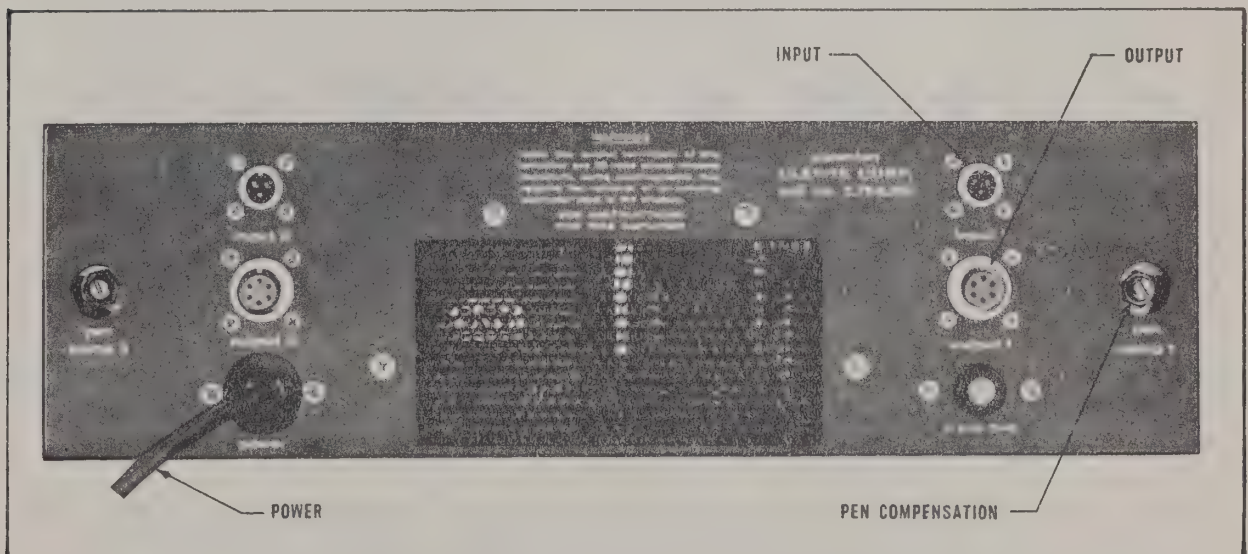
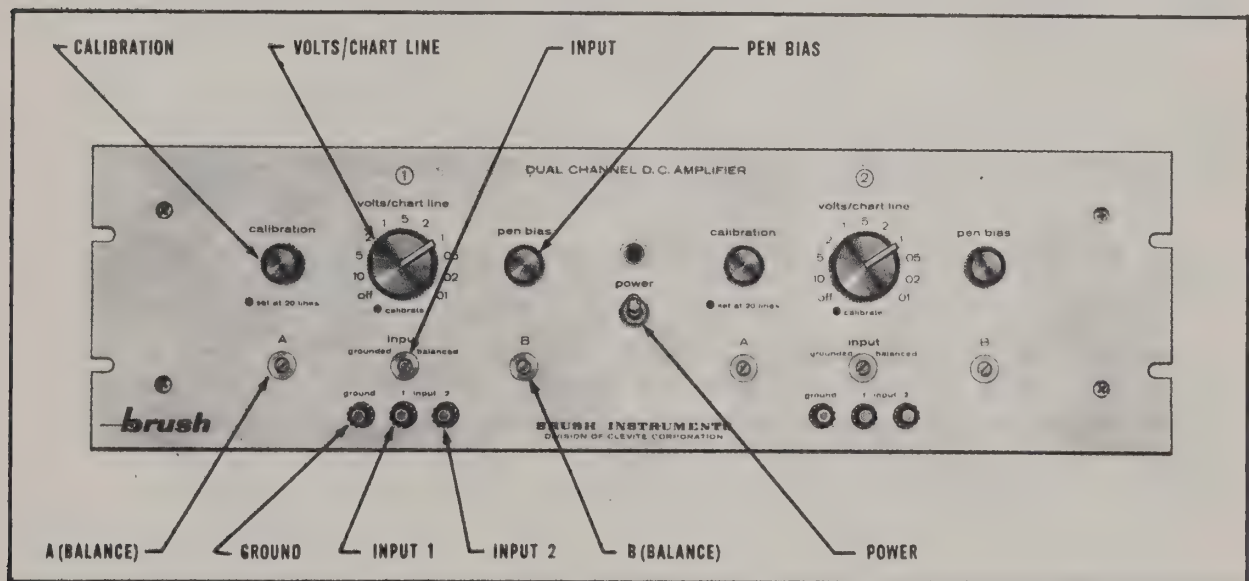

Fig. 1. Rear Panel —Dual Channel D.C. Amplifier.
Fig. 2. Front Panel Controls and Connectors—Dual Channel D.C. Amplifier Model RD 5621 01.
2. Connect the amplifier OUTPUT connector (Fig. 1), on the back of the amplifier, to the oscillograph input connector with the cable supplied.
2. Connect the amplifier power cable (Fig. 1) to a 115 volt power source. (The Model RD 5621 00 will accept only a 60 cps power input, while Models RD 5621 01 and RD 5621 02 will accept a 50 to 2000 cps power input.)
The Dual Channel D.C. Amplifier is balanced at the factory and, if the amplifier is purchased with an oscillograph, the amplifier is frequency compensated to that oscillograph. Balancing procedures described below are necessary only when new tubes are installed in the instrument, or when operation of the CALIBRATION control (Fig. 2) causes pen to shift. Frequency compensation procedures described below are necessary only when the amplifier is used with an oscillograph other than the one with which it was purchased. For routine operation, omit balancing and frequency compensation procedures and continue with "Calibration", below.
1. Turn *both* VOLTS/CHART LINE switches (Fig. 2) to "off". Turn the amplifier POWER switch (Fig. 2) to "on" and allow 15 minutes for the amplifier to warm up.
2. Turn the oscillograph "on" at slow chart paper speed (to conserve chart paper), and set the INPUT switch (Fig. 2) in the "balanced" position.
3. Turn the CALIBRATION control (Fig. 2) full clockwise, and bring the oscillograph pen approximately to chart center by means of the B-(BALANCE) control (Fig. 2).
4. Turn the A (BALANCE) control (Fig. 2) to its extreme counterclockwise position. Rapidly rotate the CALIBRATION control (Fig. 2), counterclockwise, then clockwise, while turning the A (BALANCE) control slowly clockwise until no pen deflection is noted.
5. Center the pen on the chart by means of the B (BALANCE) control (Fig. 2), and turn the oscillograph "off".
To obtain optimum frequency response of a Brush amplifier-oscillograph combination, the frequency response of the amplifier must be adjusted to match the penmotor of the oscillograph. (When an amplifier and an oscillograph are purchased as a matched system, this adjustment is made at the factory. If the instruments are purchased separately and if frequencies over 30 cps are to be recorded, the frequency compensation procedure must be observed.) When the amplifier is used with a Brush oscillograph and flat response to high frequencies is not required, the PEN COMPENSATION control (Fig. 1) may be turned "off" (fully counterclockwise).
1. Connect an oscillator covering the range from 10 to 100 cps to the INPUT 1 terminal (Fig. 2) and the INPUT 2 terminal (Fig. 2) on the front panel of the amplifier. If the corresponding INPUT connector (Fig. 1) on the rear panel is used, connect the oscillator to pin "A" (ground) and pin "C". To reduce hum pickup it is recommended that shielded leads be used.
2. Set the INPUT switch (Fig. 2) in the "grounded" position. When the INPUT switch (Fig. 2) is in the "grounded" position, the INPUT 1 terminal is shorted to ground, allowing connections to be made at the INPUT 1 and INPUT 2 terminals.
3. Turn the oscillograph "on". Set the VOLTS/CHART LINE switch (Fig. 2) in the "10" position and, with the oscillograph operating at a chart paper speed of 20 or 25 mm/sec, center the oscillograph pen trace on the chart paper by means of the PEN BIAS control (Fig. 2).
4. Turn the oscillograph "on". Set the PEN COMPENSATION control (Fig. 1) in approximately mid-position.
5. Adjust oscillator output level at 10 cps for 10 lines total pen deflection (peak-to-peak). If oscillator output is not sufficient to produce 10 lines pen deflection, turn the VOLTS/CHART LINE switch to a more sensitive position to produce 10 lines of deflection. It may be necessary to increase or decrease the oscillator output voltage, or to change the setting of the CALIBRATION control (Fig. 2) to obtain the desired 10 line deflection.
The oscillator output voltage is a reference voltage and must be held constant during the frequency compensation procedure; the settings of the oscillator output voltage control, the VOLTS/CHART LINE switch (Fig. 2), and the CALIBRATION control (Fig. 2) must remain unchanged.
6. At 100 cps (with oscillator output voltage the same as in step 5, above), adjust the PEN COMPENSATION control (Fig. 1) as necessary to obtain a pen deflection of 10 chart lines.
7. Sweep the frequency range from 10 cps to 100 cps (holding oscillator output voltage constant) and check for flatness of response. Adjust the PEN COMPENSATION control (Fig. 1), if necessary, to obtain optimum response from 10 cps to 100 cps. Turn the oscillograph "off".
1. Turn the VOLTS/CHART LINE switch (Fig. 2) "off" and set the INPUT switch (Fig. 2) in the "balanced" position. If the oscillograph pen is not on the center line of the chart, repeat the "Balancing" procedure described above.
2. Turn the VOLTS/CHART LINE switch (Fig. 2) to the "calibrate" position and adjust the CALIBRATION control (Fig. 2) as necessary to obtain a pen deflection of 20 chart lines left of center. Turn the VOLTS/CHART LINE switch to "off".
3. Check 20 line deflection by again turning the VOLTS/CHART LINE switch (Fig. 2) to the "calibrate" position. If necessary, readjust the CALIBRATION control (Fig. 2) to obtain a pen deflection of 20 chart lines.
Connect the amplifier to a signal source of known amplitude by means of the GROUND, INPUT 1, and INPUT 2 terminals (Fig. 2) on the front panel, or by means of the INPUT connector (Fig. 1) on the rear panel, using shielded leads when the impedance of the signal source is high.
When connecting a single-ended input at the front panel, connect the "hot" side (in reference to ground) to the INPUT 2 terminal (Fig. 2). Connect the side of the signal to be grounded to the GROUND terminal (Fig. 2) or the INPUT 1 terminal (Fig. 2).
When connecting a single-ended input at the rear panel, connect the "hot" side of the signal to pin "C" of the INPUT connector (Fig. 1), and connect the side of the signal to be grounded to pin "B" or pin "A". When the INPUT switch (Fig. 2) is in the "grounded" position, pin "B" is shorted to pin "A", so that either pin may be used as a ground connection.
To connect a balanced input at the front panel, connect one side of the input circuit to the INPUT 1 terminal (Fig. 2), and the other side to the INPUT 2 terminal (Fig. 2). To connect a balanced input at the rear panel, connect one side of the input circuit to pin "B" of the INPUT connector (Fig. 1), and connect the other side to pin "C". The ground point of the signal source, if available, as well as signal cable shielding should be connected to the GROUND terminal (Fig. 2) on the front panel, or to pin "A" of the INPUT connector on the rear panel.
1. Turn the VOLTS/CHART LINE switch (Fig. 2) successively to a more sensitive position, "5", "2", etc., to reach the desired sensitivity. The signal voltage is equal to the number of lines of pen deflection, from the signal zero position, multiplied by the setting of the VOLTS/CHART LINE switch.
2. Adjust the oscillograph pen to the desired position on the chart paper by means of the PEN BIAS control (Fig. 2) if the INPUT switch (Fig. 2) is in the "grounded" position. No adjustment can be made if the INPUT switch is in the "balanced" position. See "Calibration", above.
It is often desirable to expand the recording of a small dynamic signal superimposed on a larger d.c. voltage for close examination. In such cases, the PEN BIAS control (Fig. 2) may be used, in conjunction with the VOLTS/CHART LINE switch (Fig. 2), for electrical displacement of the pen zero reference position as much as 200 lines either side of chart center. (Such signal expansion is possible only when a single-ended input is used.)
1. Calibrate the recording system as described above. The CALIBRATION, or gain control (Fig. 2), once set, should not be moved during the study of the dynamic signal.
2. With the VOLTS/CHART LINE switch (Fig. 2) in the "10" position, center the oscillograph pen on the chart paper by means of the PEN BIAS control (Fig. 2).
3. Turn the VOLTS/CHART LINE switch (Fig. 2) to "5", "2", "1", etc., until a satisfactory pen deflection is noted.